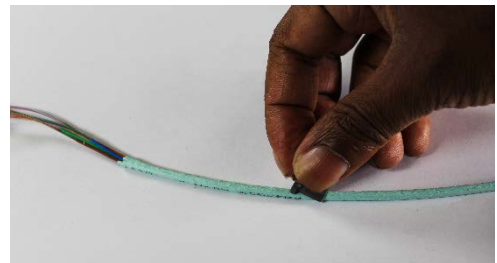

Figure 3
6.3 Install the 3.8 bushing on to the fiber bundle allowing it completely overlap the PEF jack. **See Figure 3**